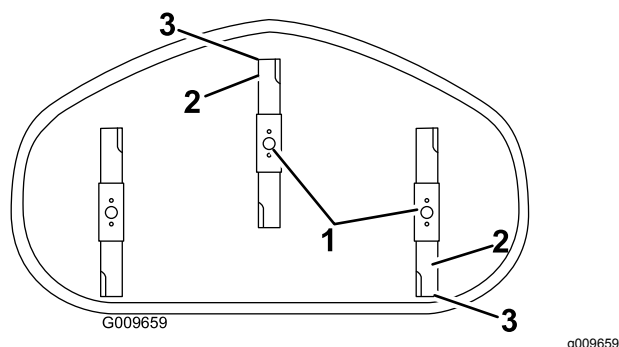

Figure 57
4. Carefully rotate the blades so that they are facing front to rear (Figure 57).
5. Measure from the tip of the front blade to the flat surface, and the tip of the rear blade to the flat surface (Figure 57).
7. After adjustment, check the front-to-rear slope again, continue adjusting the nut until the front blade tip is 1.6 to 7.9 mm (1/16 to 5/16 inch) lower than the rear blade tip (Figure 57).